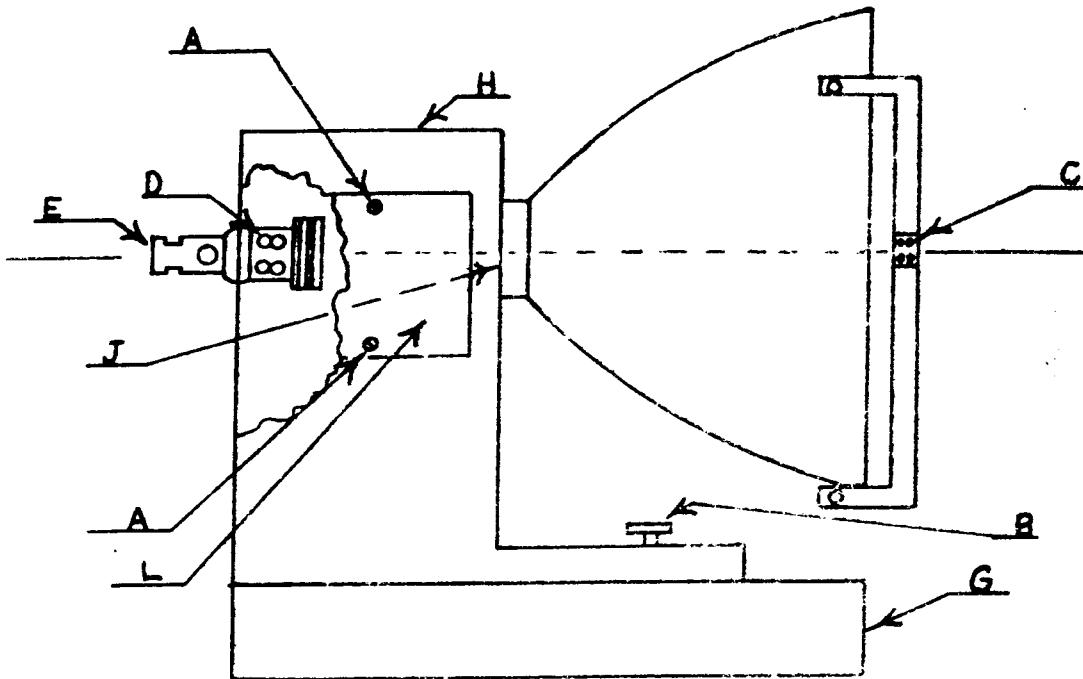

FIG. 1
4. Remove cover plate (Item L) from main support casting held by two thumb screws (Item A) see Fig. 1,2 Drawing #XL-023.